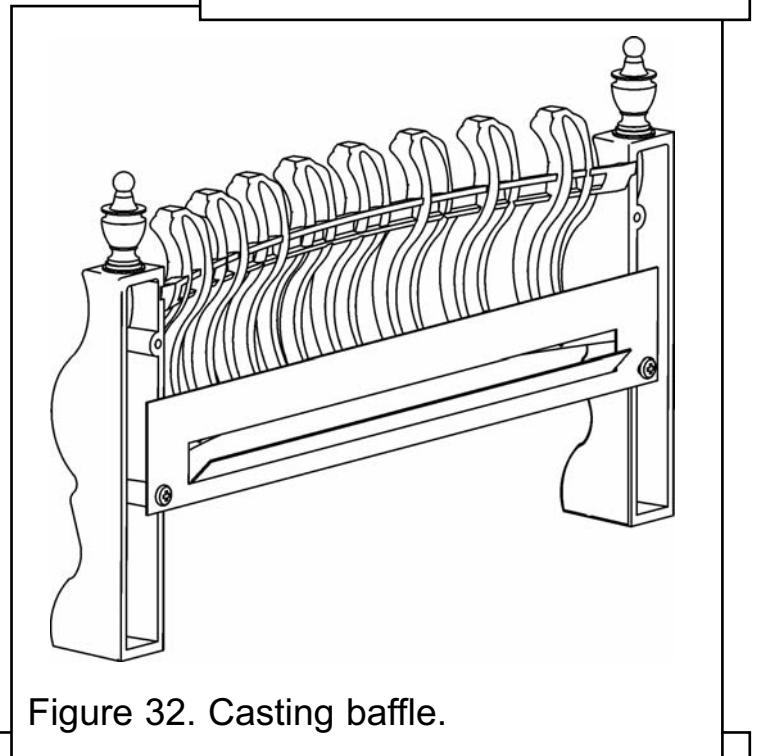

Figure 32. Casting baffle.
1. The firefront casting is supplied with a black baffle fitted to its rear. This has to be removed and replaced with the firefront casting baffle supplied with the fire. To do this remove the two screws on the rear of the casting (See figure 32) and remove the existing baffle. Secure the new baffle in place using the two screws.